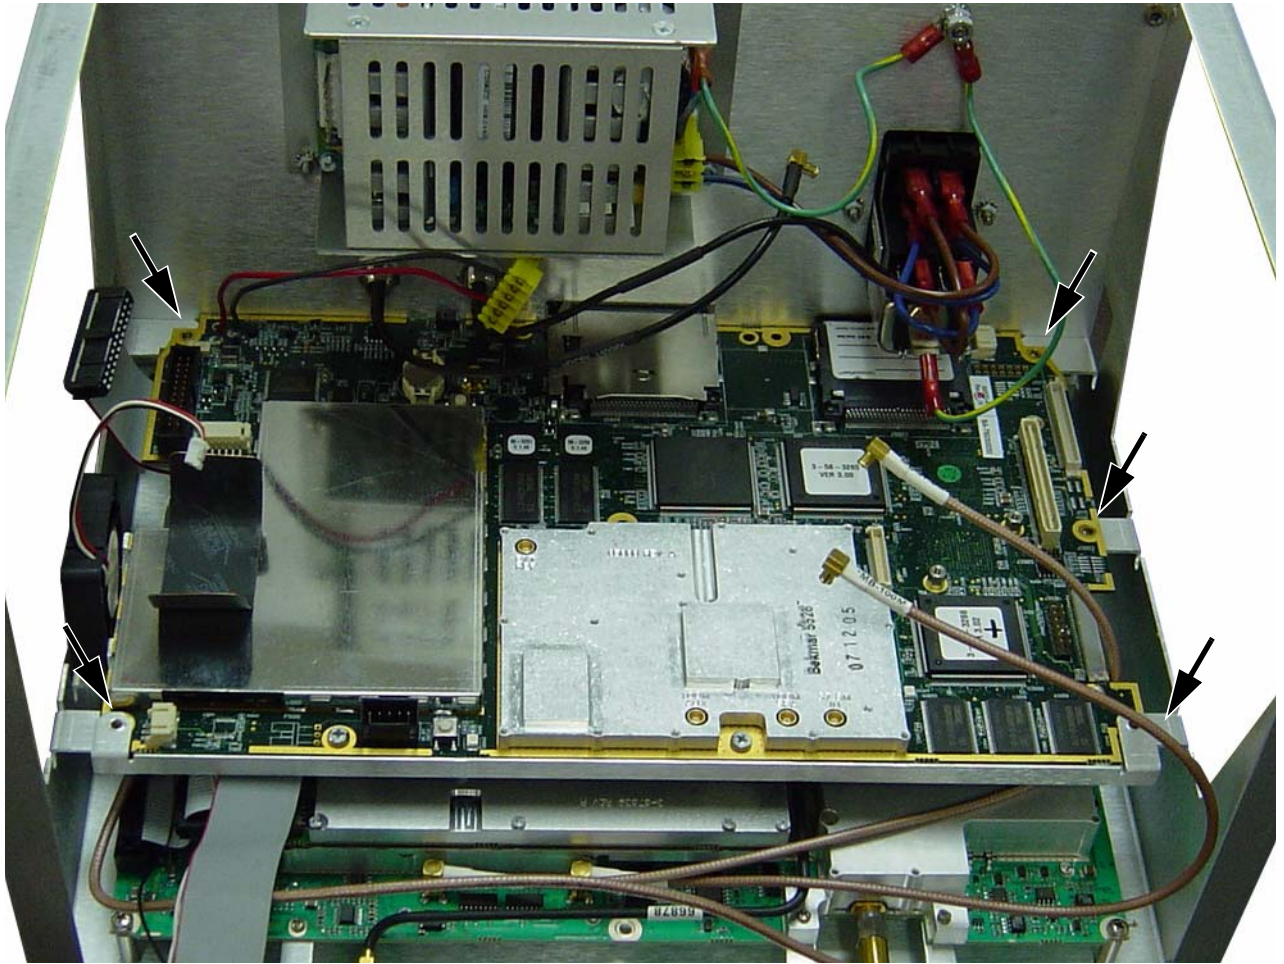

Figure 5-41. Main PCB Mounting Screws – Left and Right Edges
3. Remove the 5 screws around the edge of the Main PCB, as shown in Figure 5-41, to release the board from the chassis.